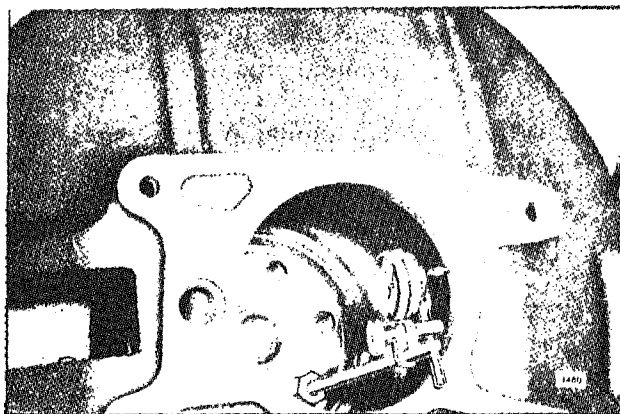

Fig. 10 - Checking Bore Runout
- b. Install the dial indicator J 8001-3 and position it to read the bore run-out of the housing (Fig. 10). Now check the run-out by rotating the crankshaft. The run-out should not exceed .008 ".